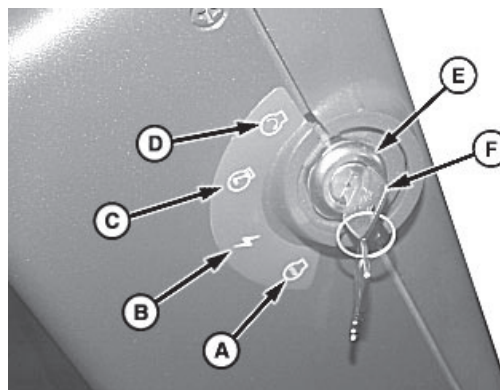

Figure 22. Key Switch
Start switch (E) is located on right side of steering column (see Figure 22).